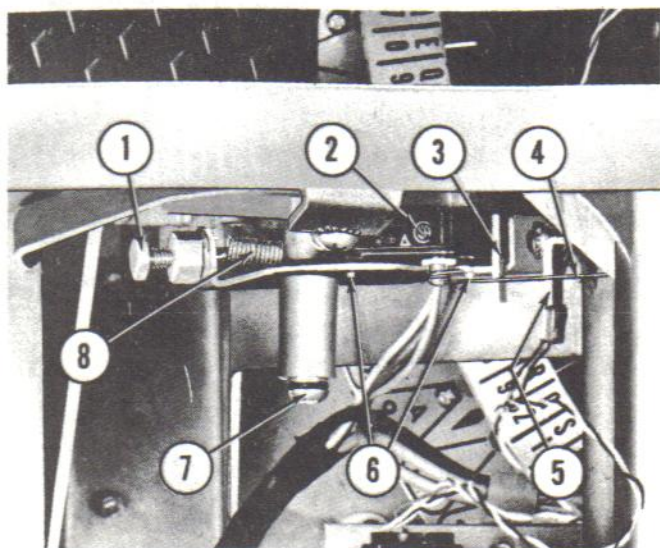

Fig. 71. TRIP SWITCH ADJUSTMENT
(5) The tone arm trip switch (Fig. 71, Item 2) is adjustable by means of the screw (Item 1) and is actuated by the bracket mounted on the tone arm (Item 5). The switch is adjusted at the factory to conform with R.I.A.A. standards using fixture X42227 which allows for extended play records. Due to the wide variation in records it may be necessary
1. Remove the trip switch and mounting bracket assembly by removing the screw (Fig. 71, Item 7). With the screw removed, unhook the spring (Item 8) from the anchor pin. The switch is mounted on its bracket by the two screws (Item 6).